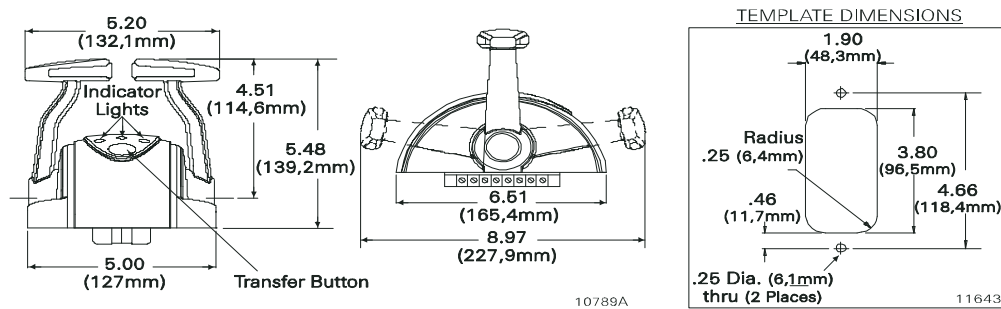

Figure MMC-329-2: Dimensions
- A Select the desired mounting locations and make cutouts per template. Refer to Figure MMC-329-2: Dimensions.